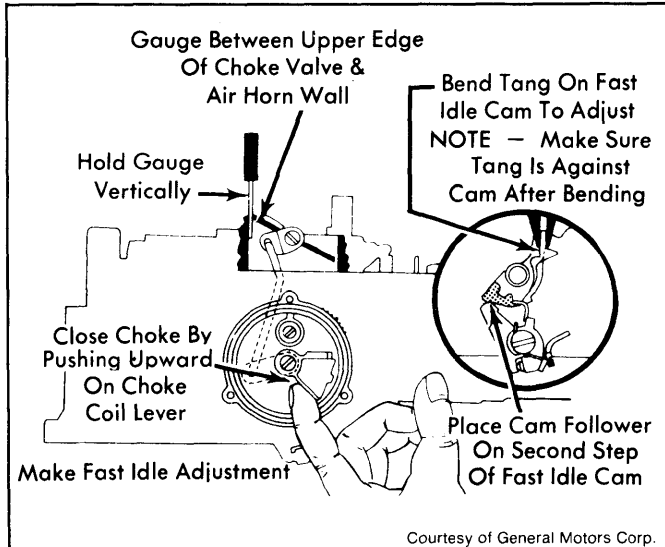
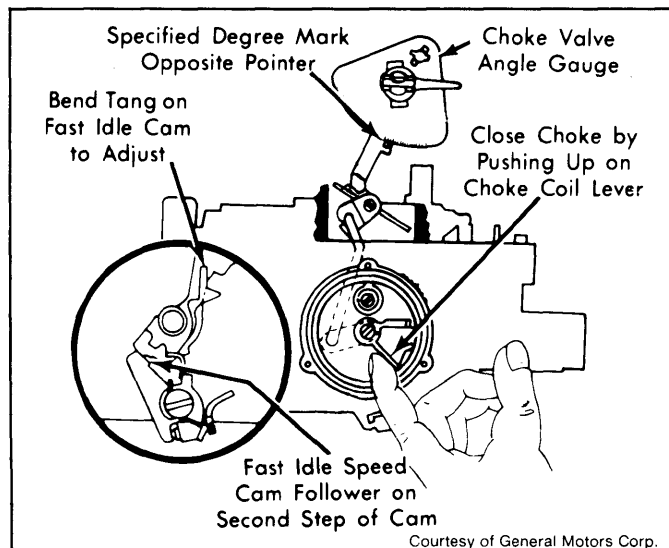

Fig. 9: 1975-77 Choke Rod (Fast Idle Cam) Adjustment
Fig. 10: 1978-79 Choke Rod (Fast Idle Cam) Adjustment
- 3) Bubble on choke angle gauge should be centered with specified angle mark opposite pointer. See Fig. 10. If angle gauge is not used, insert specified gauge between upper edge of choke valve and air horn wall. See Fig. 9.